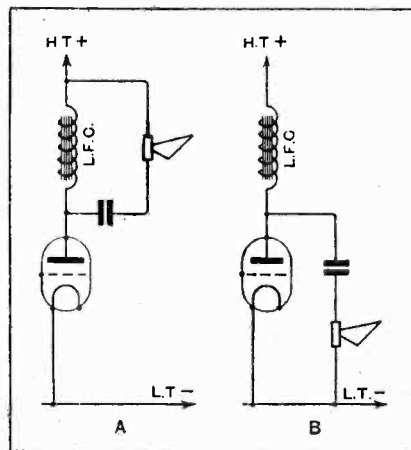

Fig. 1.—Alternative output filters.
The alternative methods of connection are shown in Fig. 1. The first (A) may now be considered as out of date; it admittedly achieves the desirable object of keeping the steady anode current out of the loud-speaker windings, but it does not restrict the development of audio-frequency voltages across any resistance which may exist in the battery (or potential divider). Thus it will not prevent self-oscillation, so the second